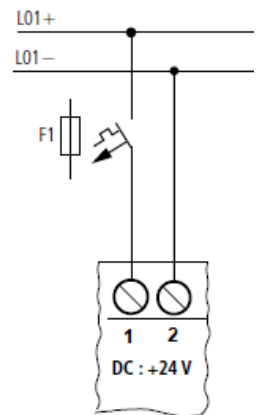

Figure 8: DC power supply to the device on terminal block
- The current needs to be limited by an overcurrent protection device of 2 A (slow). The overcurrent protection device shall be a fuse or a non-adjustable non-self-resetting electromechanical device (see F1 in Figure 8).